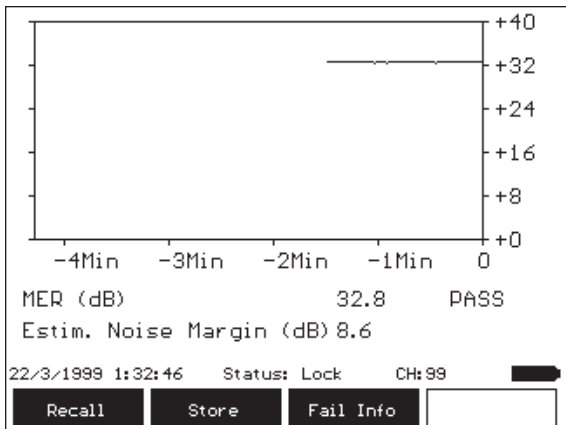

Figure 1. MER and Estimated Noise Margin screen.
**Modulation Error Ratio (MER):** ETSI ETR290 indicates that MER is the best overall “figure of merit” measurement to determine QAM signal quality. Although bit error rate (BER) has been widely addressed as an important digital transmission “figure of merit” measurement, MER provides a much earlier indication of transmission impairments. MER indicates the ratio of average total signal power in the ideal constellation to average error power in the constellation as received by the DMA120 Series. The measurement includes error power due to any impairment in the test channel spectrum is noise, MER is equal to signal-to-noise. Technicians will feel familiarity with MER because results are expressed in dB, similar to analog transmission carrier-to-noise or signal-to-noise measurements. The DMA120 Series measurement screen (see Figure 1) shows MER vs. time, providing trend information.